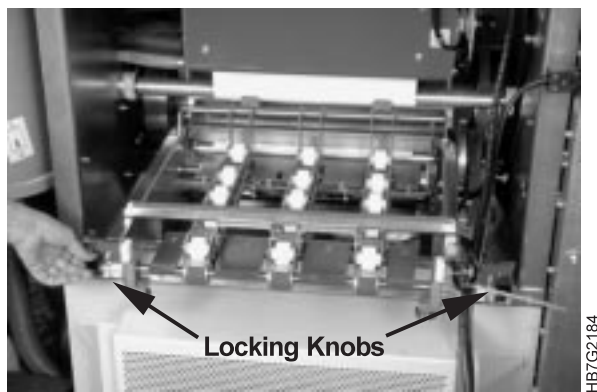

Figure 282. Cutter Assembly Locking Knobs
- 13 Replace the black cutter assembly locking knobs, as shown in Figure 282 on page 351, and cut the paper.